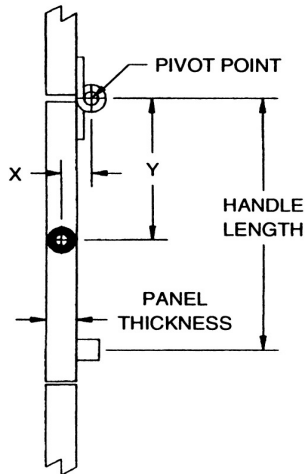

FIGURE 1A
- Length of component from hinge edge (i.e. pivot point) to handle (**Fig 1A, 1B, 1C**): Handle length: _____
- How is the panel mounted (**Fig 1A, 1B, 1C**)? Vertical Horizontal Offset
- Center of gravity location from center of hinge pivot (**Fig 1A, 1B, 1C**): X= _____ Y= _____
- Location of hinge pivot from mounting surface (**Fig 1A, 1B, 1C**): X= _____ Y= _____